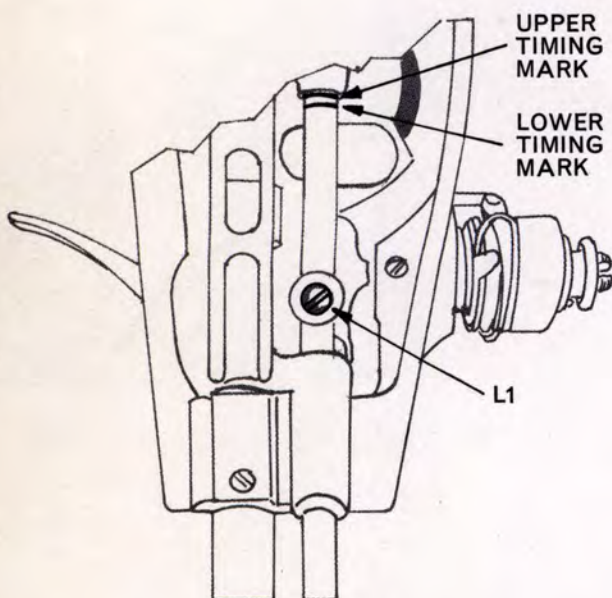

Fig. 18. Setting Needle Bar at Correct Height.
1. With needle bar at its lowest point, loosen set screw L1, Fig. 18 and raise or lower needle bar, as required.